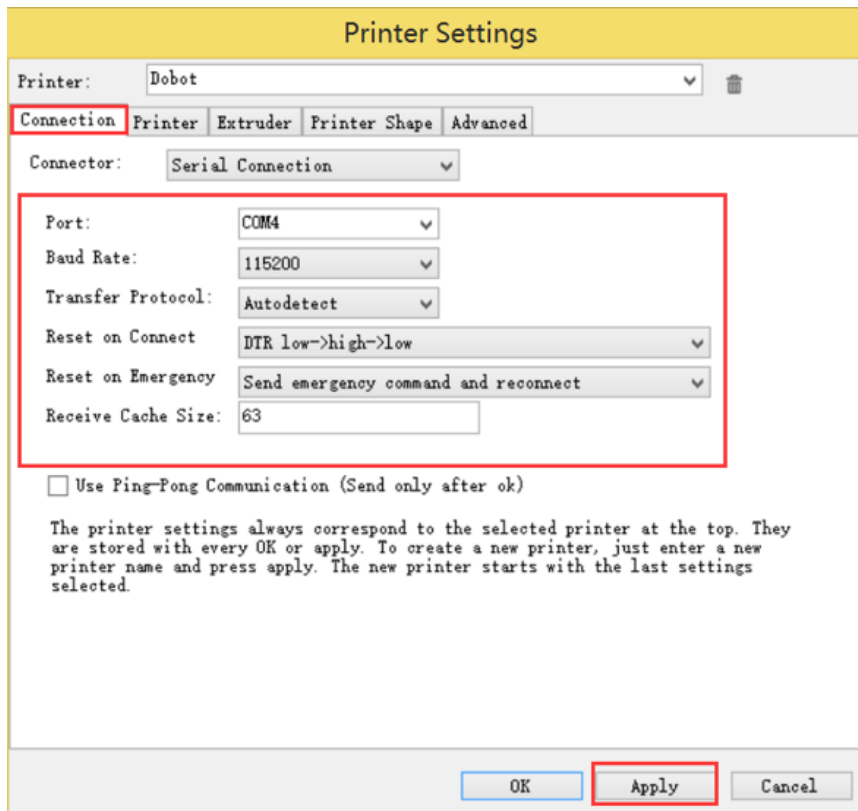

Figure 5.129 Connection setting
2. Set the corresponding parameters on the **Connection** tab as shown in the red box of Figure 5.129. The other parameters are set by default.